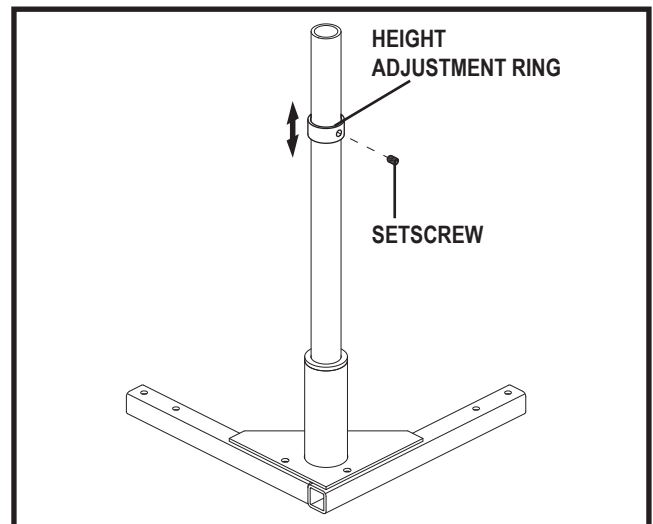
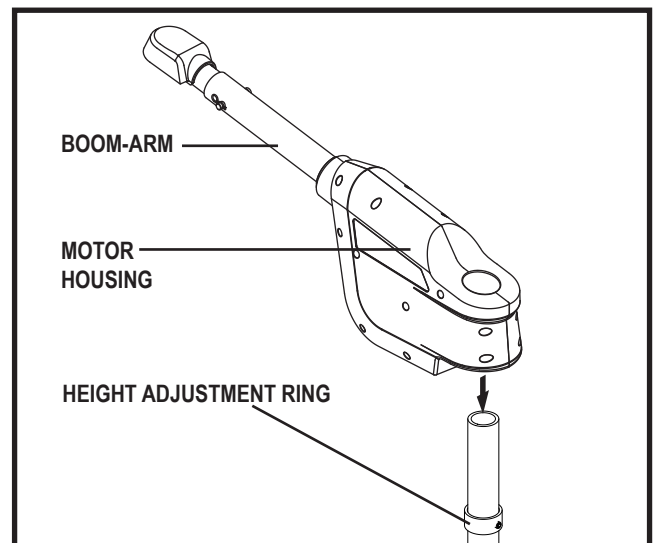
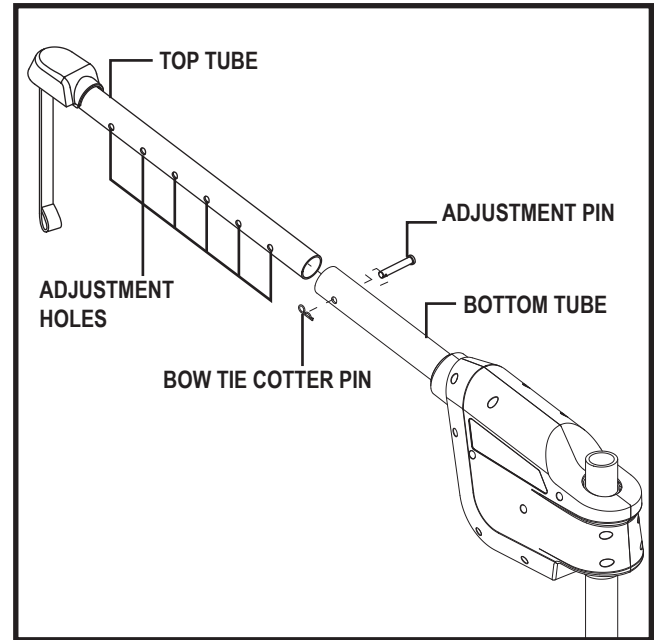

Figure 5. Height Adjustment Ring Assembly
Figure 6. Motor Housing Assembly
Figure 7. Boom Arm Adjustment
2. Slide the height adjustment ring (see figure 5) over the upper post and tighten the setscrew (a good starting point is approximately 12 in [30.5 cm] down from the top of the upper post). To ensure safe operation, the height adjustment ring must be secured no closer than 6 in (15 cm) from the top of the upper post.
3. Lower the motor housing over the upper post until it rests on the height adjustment ring. **See figure 6.**
You may need to adjust the height of the motor housing (see figure 6) or the length of the boom-arm (see figure 7) so the boom-arm can swing freely without hitting at any point inside the vehicle.
- The placement of the height adjustment ring determines the height of the motor housing. **See figure 5.**
1. Loosen the setscrew on the ring. **See figure 5.**
Before adjusting the boom-arm, lower the strap about 12 in (30.5 cm). This will provide enough slack in the strap to enable the adjustable portion of the boom-arm (top tube) to be pulled out of the bottom tube to its farthest adjustment hole. **See figure 7.**
6. Insert the upper post into the support arm, and install the motor housing assembly onto the upper post. **See figures 6 and 13.**
You may need to adjust the height of the motor housing (**see figure 5**) or the length of the boom-arm (**see figure 7**) so the boom-arm can swing freely without hitting at any point inside the vehicle. See "Motor Housing Height Adjustment" and "Boom-Arm Adjustment."